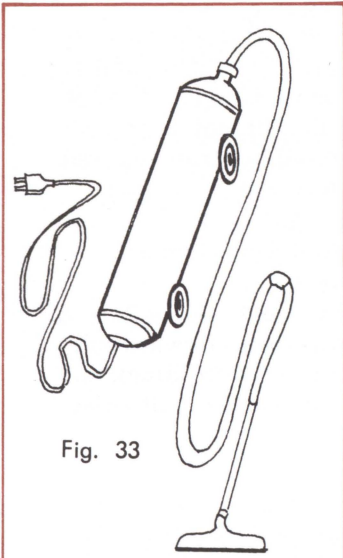
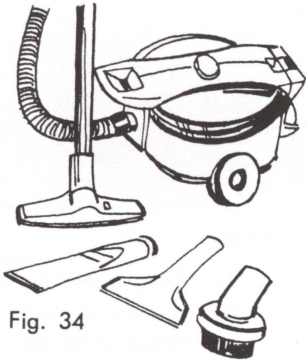
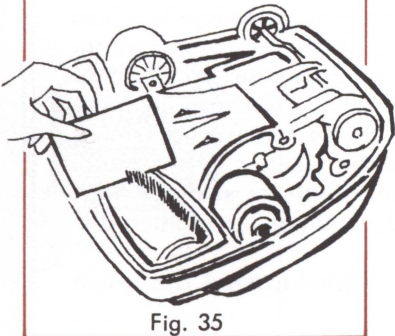

Fig. 33
Fig. 34
Fig. 35
There are three general types of cleaners, the cylinder type, Fig. 33, the canister type, Fig. 34, and the upright type, Fig. 35. The cylinder and canister types are always straight suction cleaners. The upright, Fig. 35, may have a revolving brush or roll to sweep or vibrate the rug.
Remedy: Find the nozzle adjustment on your cleaner and adjust according to manufacturer's directions. On cleaners with a rotating brush or roll, the clearance between the cleaner nozzle and the rug should be the thickness of a half-dollar. Fig. 35.
Remedy: Hold machine with nozzle up, lay a ruler or piece of stiff cardboard over the nozzle. The bristles should not quite touch the ruler; a space of 1/32-inch is desirable. The adjustment is usually made by moving a pin, screw or lever at each end of the brush. Fig. 35.
Remedy: Examine the belt. Fig. 35. Make sure it is around both the brush and motor shaft and is not tangled with hair and strings. If, after cleaning the brush, it still will not turn with the motor, the belt is probably stretched and should be replaced with a new belt.
1. Lubrication: Most cylinder-type cleaners, Fig. 33, and many upright cleaners, Fig. 35, have bearings which are sealed and packed with grease at the factory. These types require no lubrication but should be inspected at least yearly by a competent serviceman. If any unusual noise develops in these cleaners they should be taken immediately to a serviceman, dealer, or manufacturer for inspection. Some upright cleaners of the type shown in Fig. 35 have oil holes. Oil these cleaners yearly with 3 or 4 drops of electric motor oil. An occasional drop of oil on the wheel bearings of the cleaner is desirable.